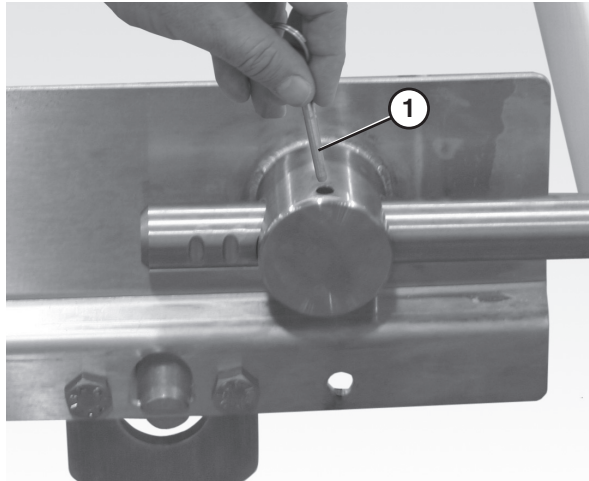

Figure 53
2. Remove the pull pin (**Figure 53, item 1**) on the tension end of the conveyor to release belt tension.